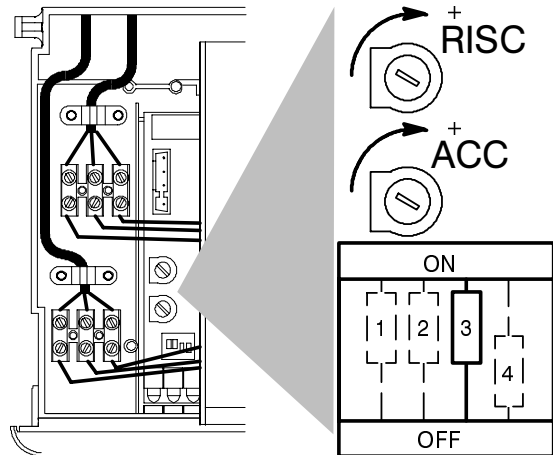

Fig. 7.7
- 14 Check the ignition gas pressure by setting dip-switch "3" (Fig. 7.7) to the OFF position. Compare the value on the gauge with the value indicated in the sections 4.3 or 4.4 (gas pressures at the burner), accordingly with the model of boiler installed.
To adjust the ignition gas pressure, set dip-switch "3" (Fig. 7.7) to the OFF position and adjust potentiometer marked "ACC" with a screwdriver until correct ignition gas pressure is obtained.
With the boiler operating in c.h. mode, use a suitable screwdriver to turn the adjustment potentiometer marked "RISC" (Fig. 7.7). Rotating the potentiometer anti-clockwise reduces the maximum supply current to the gas modulator device, and thus reduces the gas pressure to the burner.